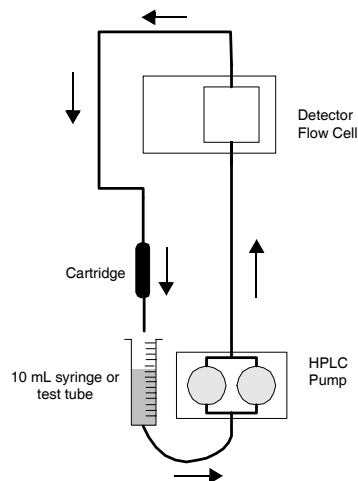

Fig. 3 Recycling method plumbing
1. Plumb the inlet line of the pump to one of the following (Figure 3 on page 4):